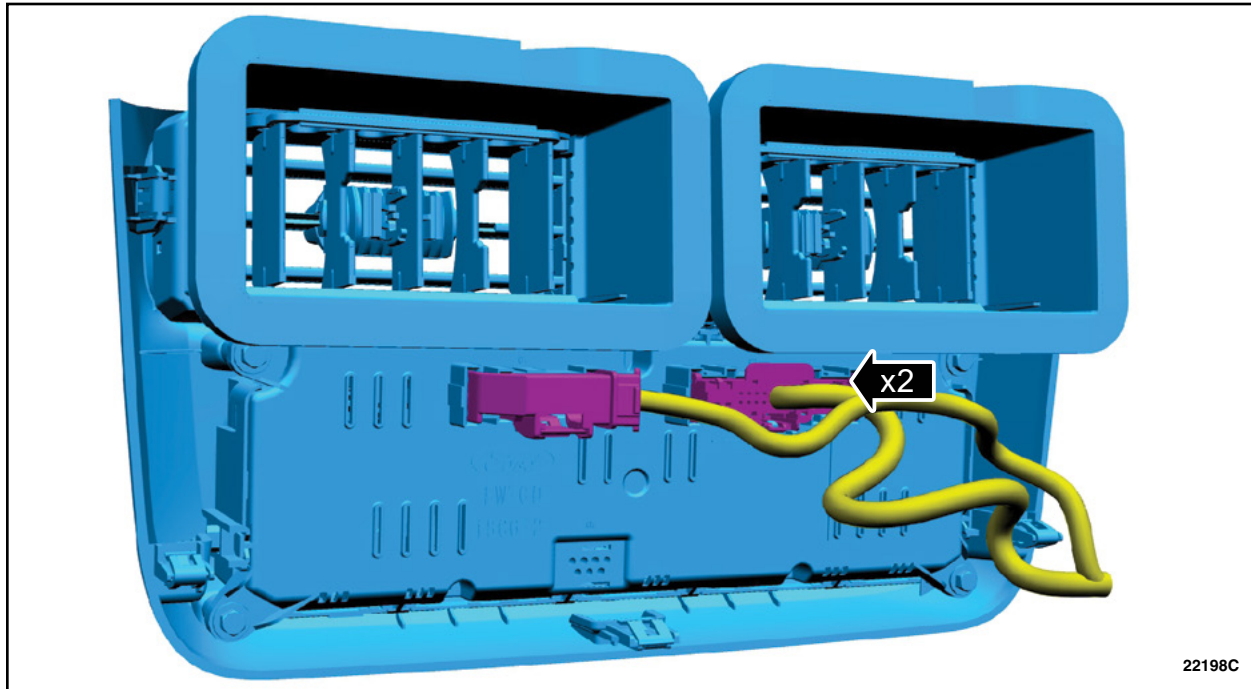

FIGURE 2
2. Disconnect the electrical connectors and remove the center registers and climate controls out as an assembly. See Figure 2.